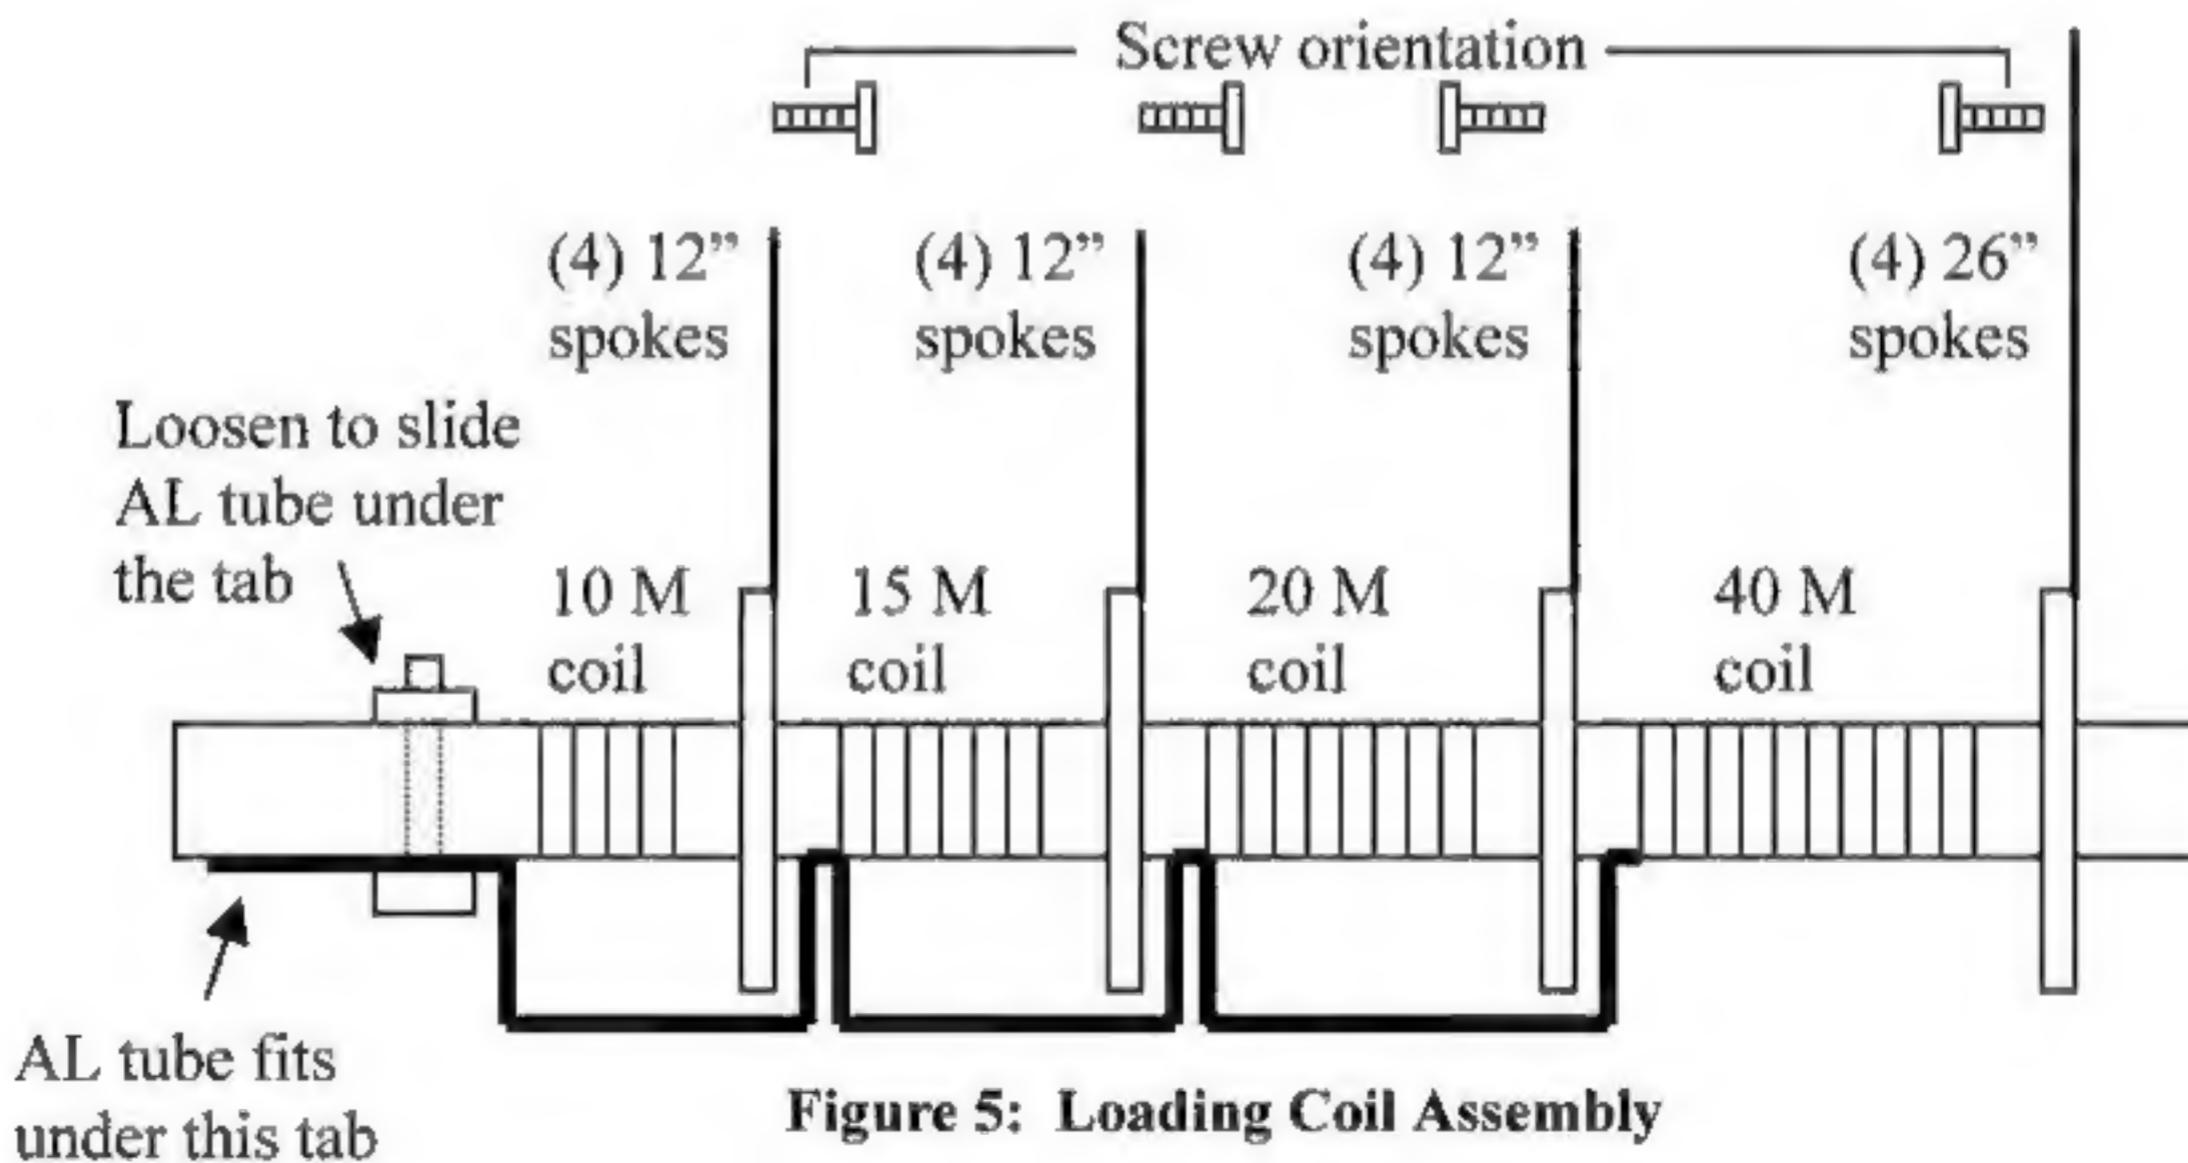

Figure 5: Loading Coil Assembly
- 11) Install the 6-32 screws in all rings of both loading coil assemblies, loosely holding them in place with their associated nuts. Position the screws so the threaded ends of the screws are pointed outward towards the two ends of each loading coil assembly as shown in Figure 5. .
- 16) Loosen the mounting screw indicated in Figure 5 so that the aluminum radiator can be slid under the aluminum tab. Slide the aluminum radiator tube until it contacts the mounting screw that was just loosened. Tighten the mounting screw. ***Do not over-tighten this screw or you may BREAK the fiberglass form.*** Slide the last hose clamp over the tab and tighten the hose clamp to firmly attach the loading assembly to the aluminum radiator.